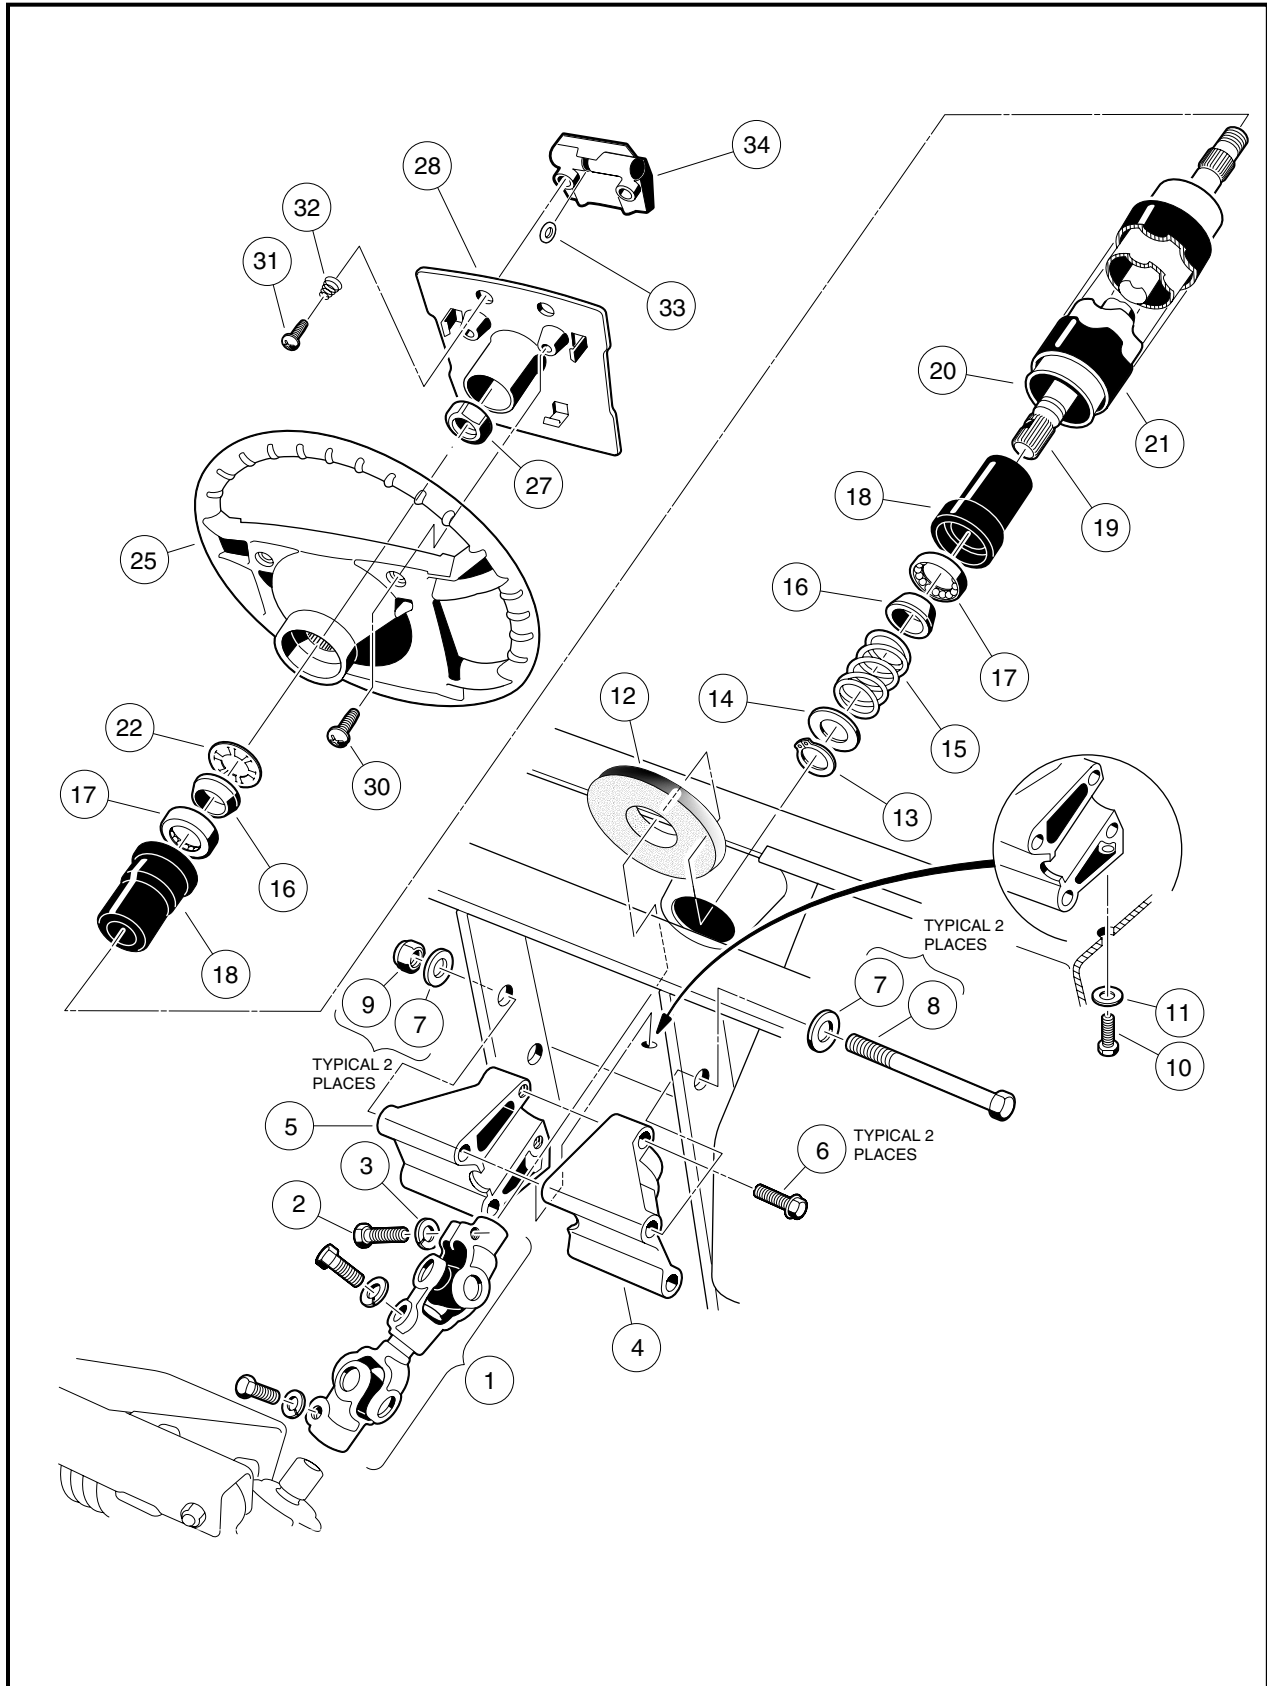

Figure 7-3 Steering Column
2. Remove the two mounting screws (30) and plate (28) **(Figure 7-3, Page 7-3).**
3. Match mark the steering wheel (25) and steering column shaft (19) so when the steering wheel is removed it can be placed back in exactly the same position on steering column shaft **(Figure 7-3, Page 7-3).**
4. Loosen the steering wheel nut (27) and back it off approximately 1/4 inch (6 mm). Do not remove the nut **(Figure 7-3, Page 7-3).**
- 5.6. Remove the steering wheel nut (27) and the steering wheel (25) from the steering column (20) (**Figure 7-3, Page 7-3**).
1. Install the steering wheel (25) on the splines of the steering shaft (19). Be sure to align the match marks placed on the wheel and steering column in step 3 above (**Figure 7-3, Page 7-3**).
2. Install the steering wheel nut (27) and tighten to 13 ft-lb (17.6 N·m).
3. Install the steering wheel plate (28) and plate mounting screws (30) (**Figure 7-3, Page 7-3**). Tighten screws to 16 in-lb (1.8 N·m).
5. Remove the upper bolt (2) and lock washer (3) from the universal joint (**Figure 7-3, Page 7-3**).
6. Remove the nuts (9), bolts (8 and 10), and washers (7 and 11) from the steering column mount (4 and 5) (**Figure 7-3, Page 7-3**).
1. Remove bolts (6) and mounts (4 and 5) from steering column. Remove boot (12) (**Figure 7-3, Page 7-3**).
2. While supporting steering column (20) on a workbench, remove snap ring (13) from shaft.
4. Insert the shaft (19) from the bottom of the steering tube (20) (**Figure 7-3, Page 7-3**).
1. Install boot (12). Reinstall mount (4 and 5) onto the end of the steering column. Tighten bolts (6) to 20 ft-lb (27 N·m) (**Figure 7-3, Page 7-3**).
- Position the steering column assembly in the vehicle while inserting the steering column shaft into the upper universal joint (1). The flat portion of the steering shaft spline (19) must be aligned with the bolt hole in the universal joint (1) before sliding the spline into the universal joint. While holding the steering column in place, attach it to the frame using bolts (8), washers (7), and nuts (9) (**Figure 7-3, Page 7-3**). Thread the nuts onto the bolts but do not tighten them.
- Install washer (11) and screw (10). Tighten to 20 ft-lb (27 N·m) (**Figure 7-3, Page 7-3**).
- Install the bolt (2) and lock washer (3) on the upper universal joint and finger-tighten.
- Tighten the two nuts (9) and bolts (8) to 18 ft-lb (24.4 N·m) (**Figure 7-3, Page 7-3**).
- Tighten the bolt (2) on the upper universal joint to 15 ft-lb (20 N·m) (**Figure 7-3, Page 7-3**).
- Check the other two bolts of the universal joint (1) to ensure that they are properly tightened to 15 ft-lb (20 N·m) (**Figure 7-3, Page 7-3**).
- Remove the bolt (2) and flat washer (3) on the upper universal joint, then remove the rack assembly and universal joint from the vehicle (**Figure 7-3, Page 7-3**).